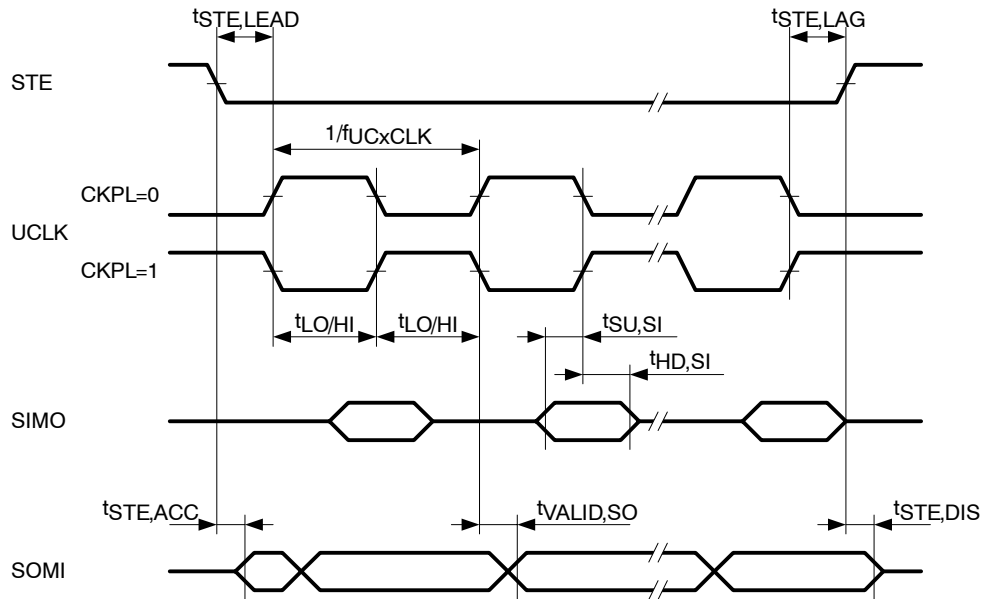
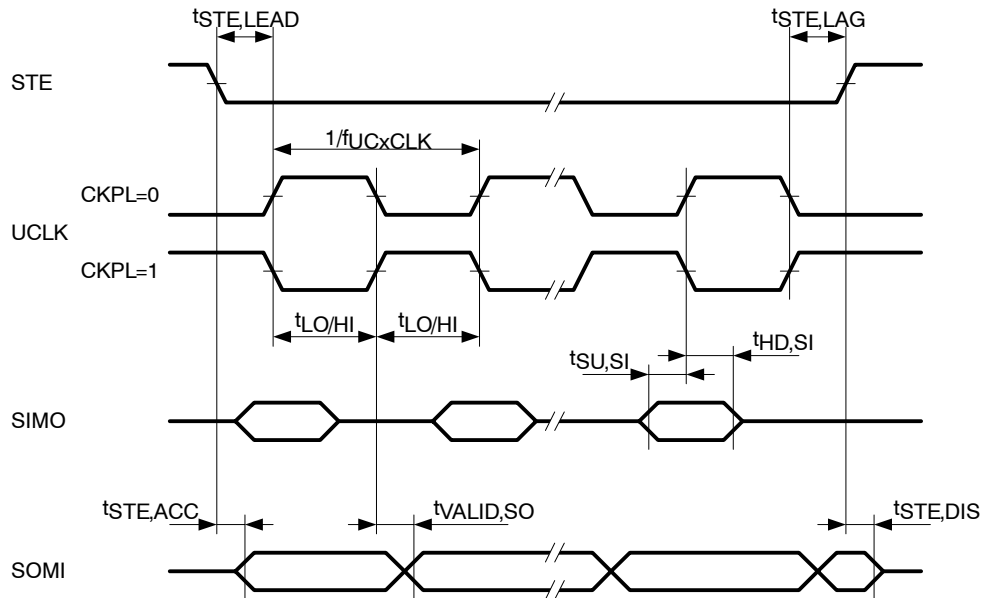

Figure 29. SPI Slave Mode, CKPH = 0
Figure 30. SPI Slave Mode, CKPH = 1
**USCI (SPI slave mode) (see Figure 29 and Figure 30)**